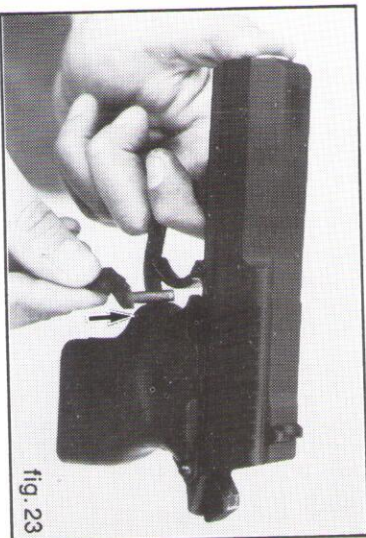

fig. 23
7. Insert the slide catch, start holding it 90° to its normal position (pointing down) so the cut on its end will slide under its spring in the frame (Figs. 23, 24), then rotate it 90° counter clockwise and while holding the slide slightly backwards push the slide catch into the frame hole until it snaps into place.